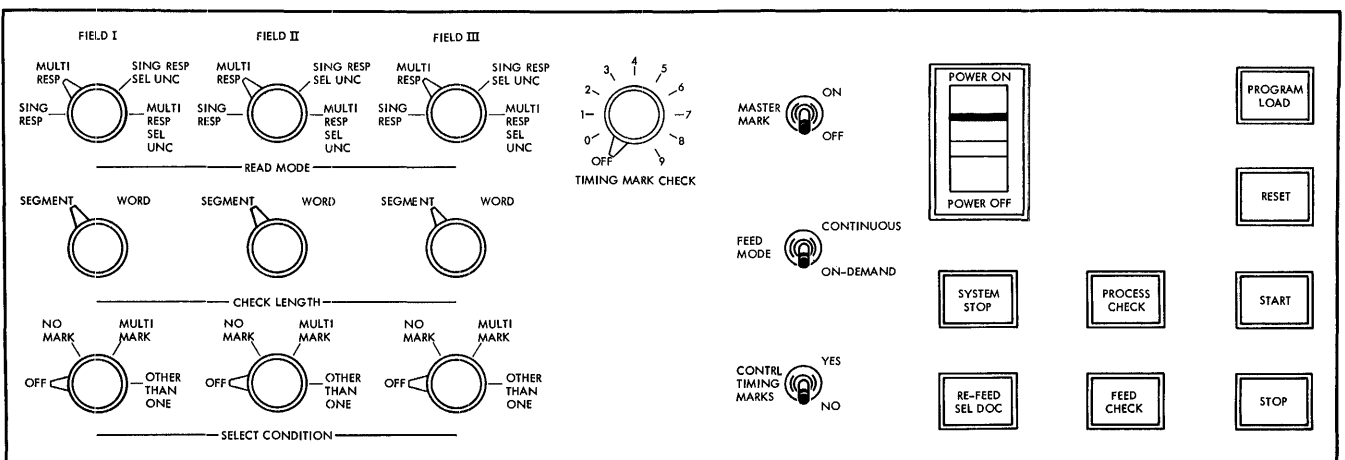

Figure 101. IBM 1231 Operator's Console
The operator's console (Figure 101) on the optical mark page reader contains the keys, lights and switches necessary for setup and operation.
6. Set the field-checking switches to their proper settings. The check-length switches should be set to either WORD or SEGMENT; the select condition switches should be set to OFF, NO-MARK, or OTHER-THAN-ONE; the read mode switch should be set to SING RESP, MULT RESP, SING RESP SEL UNC or MULT RESP SEL UNC. See Figure 101.